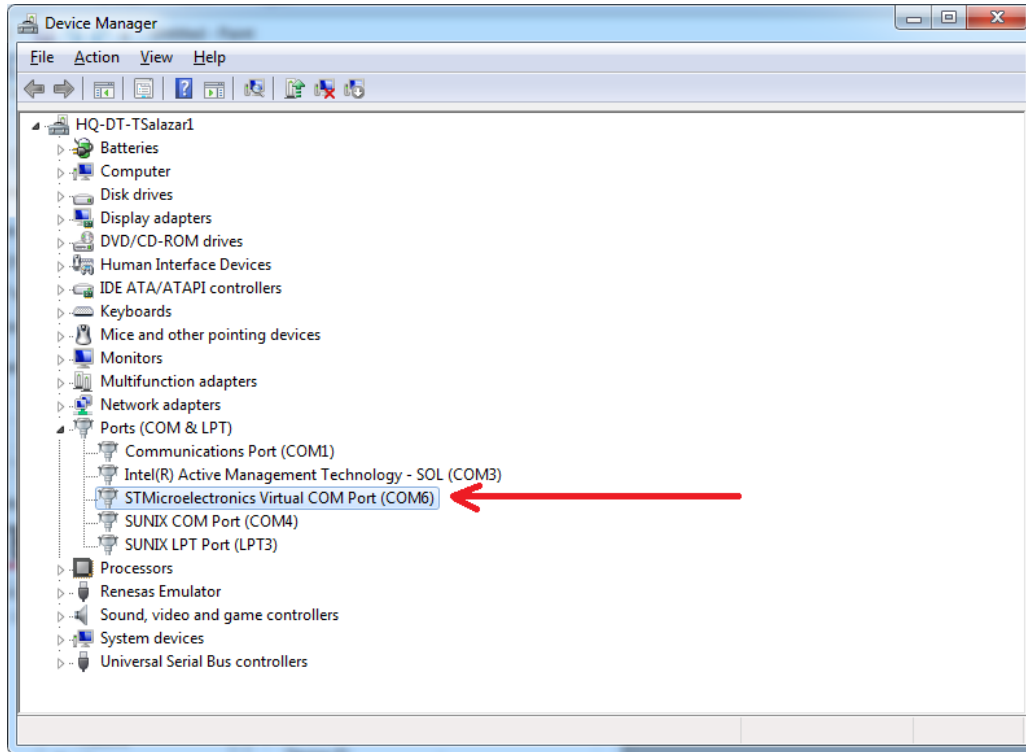

Figure 6. Verify COM port connected as “STMicroelectronics Virtual COM Port (COMx).” It may be a different COM port number on your PC.
8. Open Windows **Device Manager** and verify the connected COM port number connected as **STMicroelectronics Virtual COM Port (COMx)** shown in Figure 6.